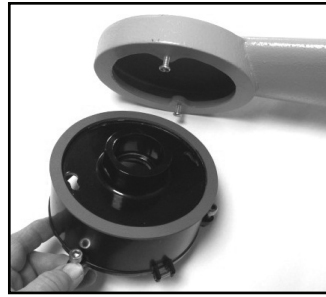

Figure 1.
3. Pull wires through the center opening in the adapter cover. Slip the keyhole slots in the VLHR adapter cover over the two (2) screws in the head of the wall mount (Figure 1.). Rotate the VLHR cover and lightly snug both screws. In the same order, torque each screw to 20 lb-in (2.3 N-m).